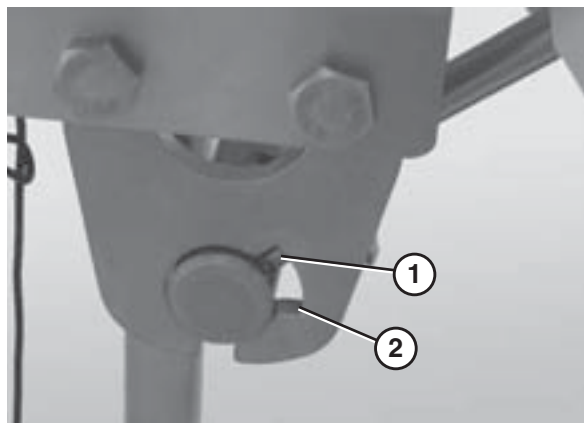

Figure 9
3. Insert the notched end of the scraper shaft (Figure 9, item 1) so that it is situated within the groove in the mounting plate (Figure 9, item 2).